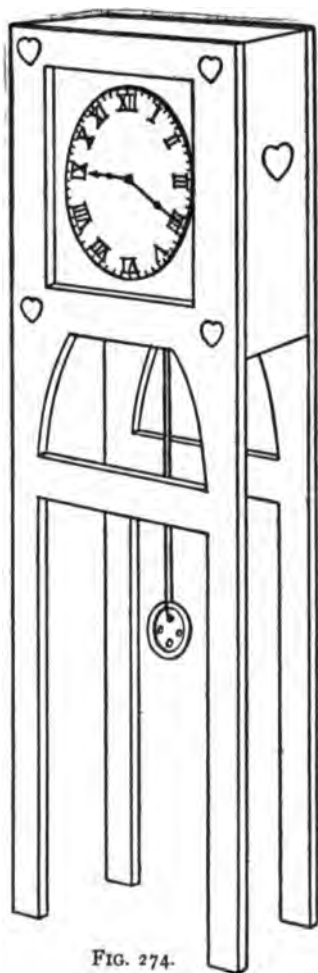

FIG. 274.
**The Grandfather's Clock** (Fig. 274) makes an effective piece of furniture for the hall or living-room, and is easily made. Figure 264 shows the pattern for the front of this clock. The back is made the same, with the omission of the square opening cut in the front frame for the clock-face. Cut